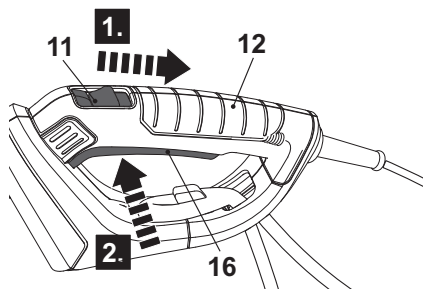

Fig. 11
1. Ensure the cutting device (blade) (1) does not touch any objects. Remove the blade cover (18) from the cutting device (blade) (1) before switching the product on.
2. Hold the product with one hand on the soft grip (9) of the front pole (8) and the other hand on the rear handle (12).
3. Pull back the lock-off button (11) and hold it in position (Fig. 11, step 1).
4. Squeeze the on/off switch (16) to switch the product on (Fig. 11, step 2). Release the lock-off button (11) afterwards.
5. Release the on/off switch (16) to switch the product off.